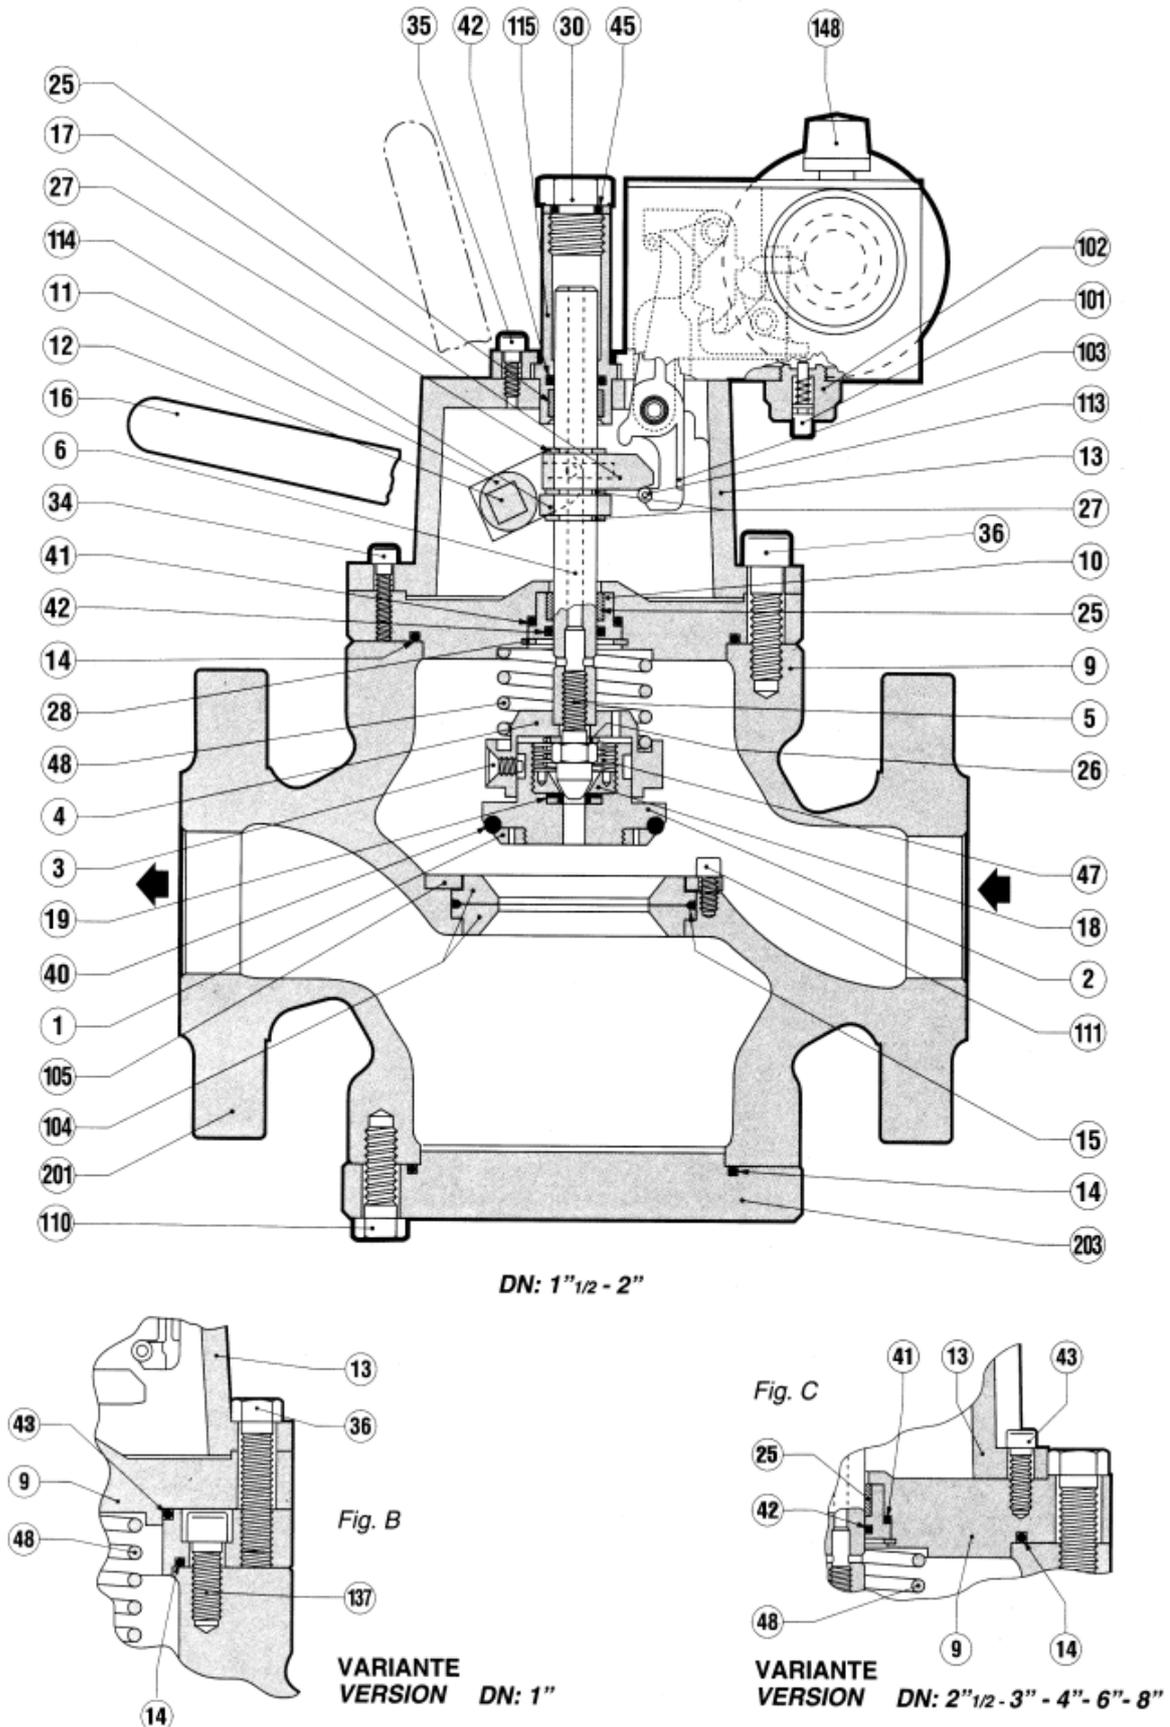

Fig. 11
5.1 TAB. 2 VALVOLA DI BLOCCO SBC 782 (FIG. 11 - 12)
5.1 TAB. 2 SBC 782 SLAM-SHUT (FIG. 11 - 12)